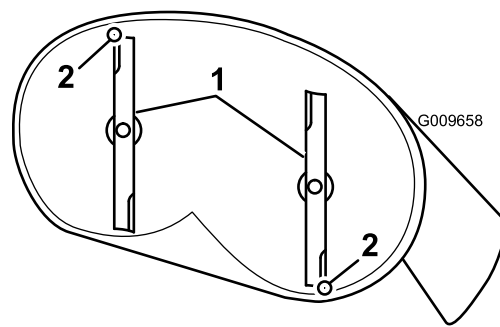
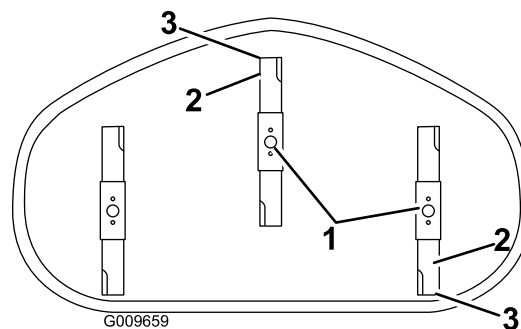

Figure 60
Figure 61
4. Carefully rotate the blades so they are facing front to rear (Figure 60 and Figure 61).
5. Measure from the tip of the front blade to the flat surface and the tip of the rear blade to the flat surface (Figure 60 and Figure 61). If the front blade tip is not 1/16-5/16 inch (1.6-7.9 mm) lower than the rear blade tip, adjust the front locknut.
8. After adjustment, check the front-to-rear slope again. Continue adjusting the nut until the front blade tip is 1/16-5/16 inch (1.6-7.9 mm) lower than the rear blade tip (Figure 60 and Figure 61).